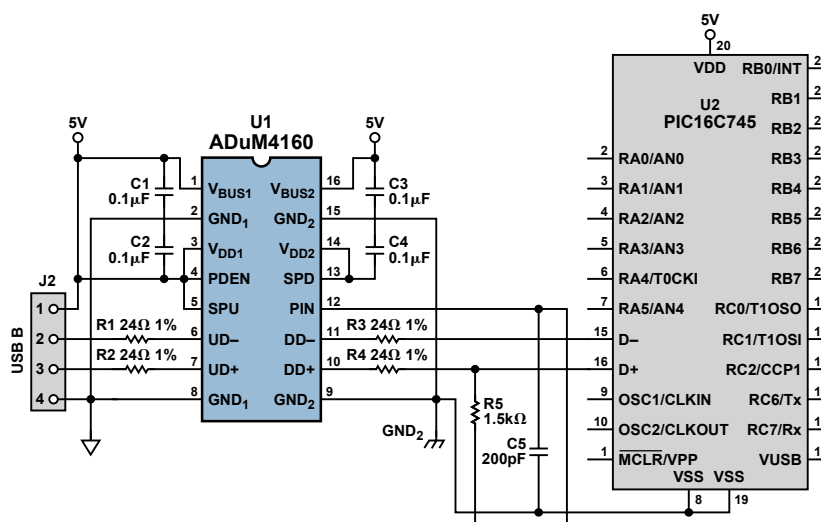

Figure 7. Isolated peripheral port.
- It will be installed in a peripheral to isolate its upstream port. The ADuM4160 was designed with this configuration as the base application. It leads to the simplest power and control configurations (Figure 7).
In the peripheral application (Figure 7), where the peripheral has its own source of power, almost no power is required from the USB cable—about 10 mW to run the isolator’s upstream side and the pull-up resistor. Since the peripheral operates at a single speed, the isolator is hardwired for the desired speed setting, either *full speed* or *low speed*. If the peripheral port happens to be *high-speed*-capable, then it sends a high-speed “chirp” pattern during enumeration. This would normally initiate negotiations for high-speed operation, but the ADuM4160 blocks the chirp signal and automatically forces the high-speed peripheral to operate at *full speed*. For low-power peripherals that don’t have their own supply, an isolated dc-to-dc converter, such as the ADuM5000, can be used to supply the peripheral and the ADuM4160, drawing power from the USB cable.